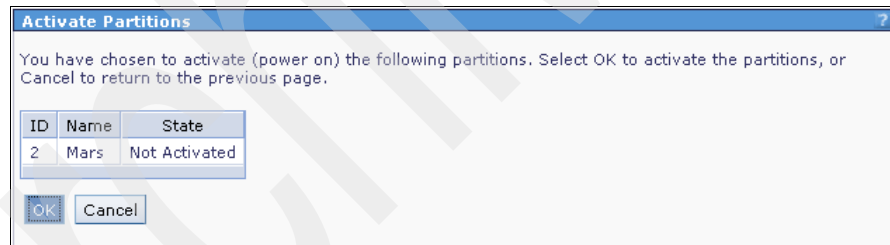

Figure 6-28 Confirm partition activation
2. Confirm the activation of the partition by clicking **OK** as shown in Figure 6-28.